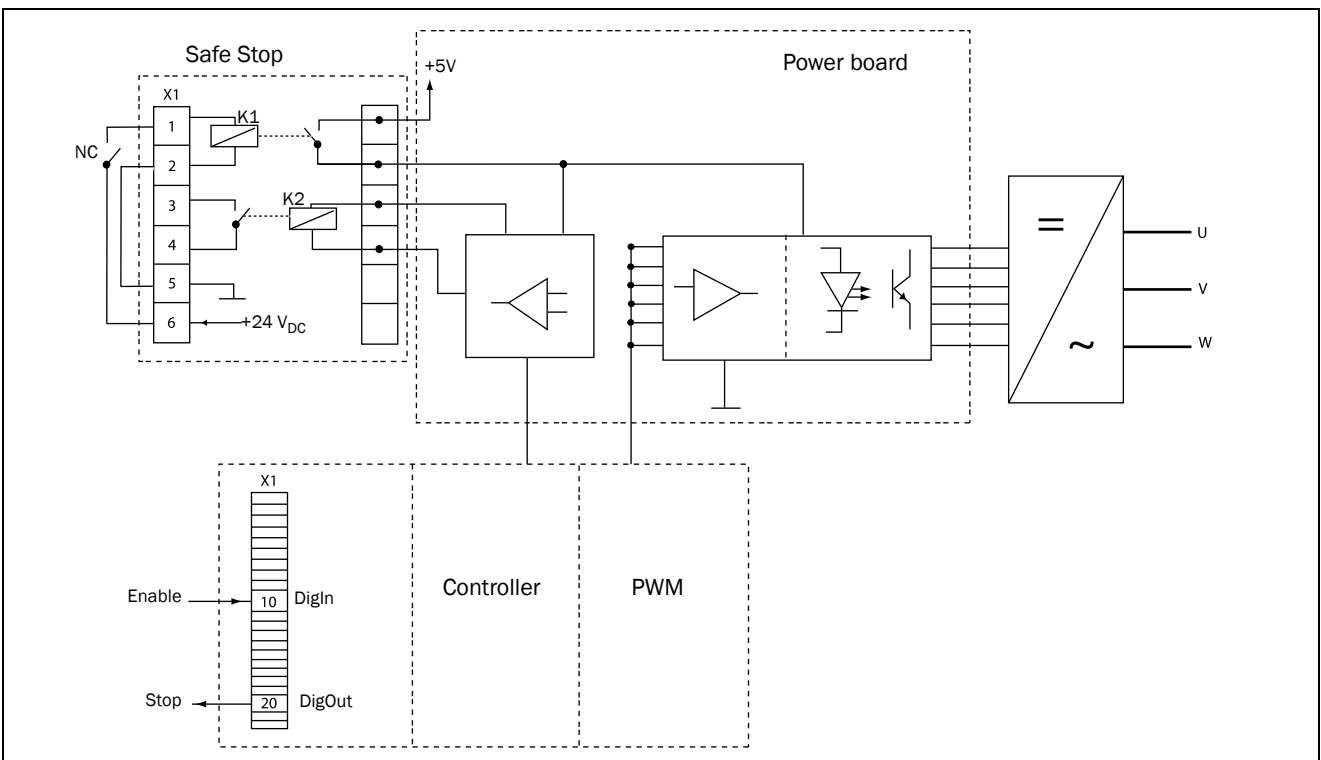

Fig. 120
- "Inhibit" input, terminals 1 (DC+) and 2 (DC-) on the Safe Stop option board should be made active by connecting  $24\text{ V}_{\text{DC}}$  to secure the supply voltage for the driver circuits of the power conductors via safety relay K1. See also Fig. 120.
- High signal on the digital input, e.g. terminal 10 in Fig. 120, which is set to "Enable". For setting the digital input please refer to section 11.5.2, page 133.
To monitor the "Enable" function, the selection "RUN" on a digital output can be used. For setting a digital output, e.g. terminal 20 in the example Fig. 120, please refer to section